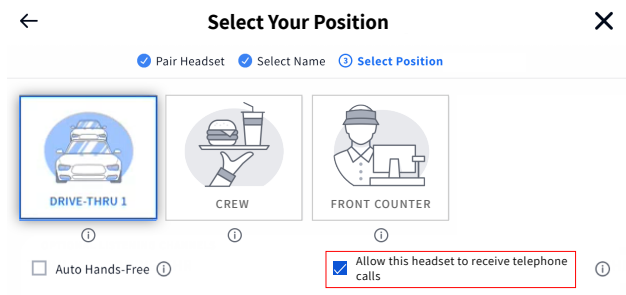

Fig. 11.5
4. When the **Select Your Position** dialog appears, select a position and check the box labeled: **Allow this headset to receive telephone calls**. See Fig. 11.5. (Since only one headset can be designated to receive phone calls, checking the box forces any previous headset assigned out of this mode.)